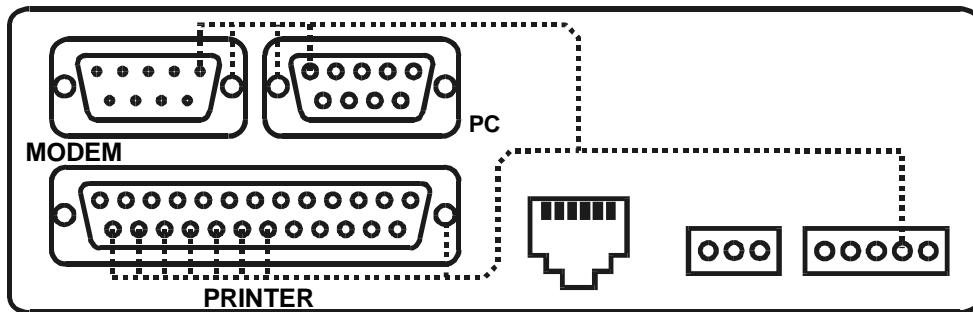

Figure A-12. GENII MPI Modem and Printer Interface.
**A-4.2.7. GENII MPI Modem and Printer Interface.** The GENII MPI Modem and Printer Interface can be used with both the Genesis I and Genesis II Digital Controllers. The MPI is supplied with a double insulated plug pack, which isolates the MPI power supply from the electrical earth. But, when a printer or PC is connected to the MPI, it will be connected to the electrical earth via the printer and/or PC cables. See Figure A-12
The Comms is connected to the MPI via the RJ11 socket on the rear of the MPI. The top portion of Figure A-12 shows the socket connections and the cable as supplied. The standard order for conductor colours is shown, but they may change and, therefore, should always be checked before connecting.